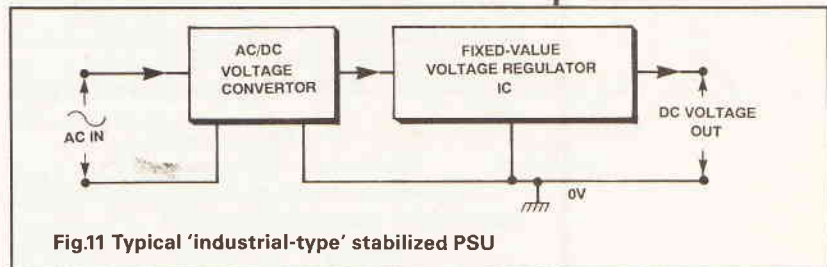
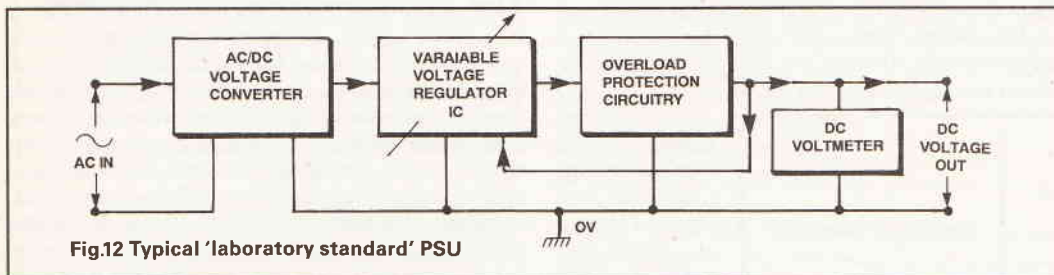

Fig.11 Typical 'industrial-type' stabilized PSU
Fig.12 Typical 'laboratory standard' PSU
**Stabilised Power Supplies.** These generate a mains (AC power line) derived DC supply in which the output voltage remains constant in spite of wide variations in load current. Modern versions of these are usually based on one or more dedicated 'voltage regulator' ICs. Industrial versions of such a PSU (power supply unit) usually consist of little more than a transformer-rectifier-capacitor AC/DC converter and a fixed-value voltage regulator IC, as shown in Figure 11. Laboratory-type PSU's are more complex, and include a variable-voltage regulator IC, overload protection circuitry, and an output voltage monitor (see Figure 12).